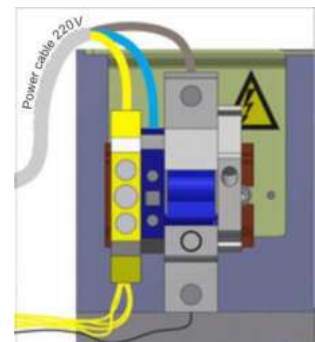

Fig. 21- Connection of power supply cable
a) Power supply cable ~230 V to be connected (Fig. 21):
- Neutral (N) to be connected to terminal ~230V (N);
- Earth (PE) to be connected to earthing terminal (PE)